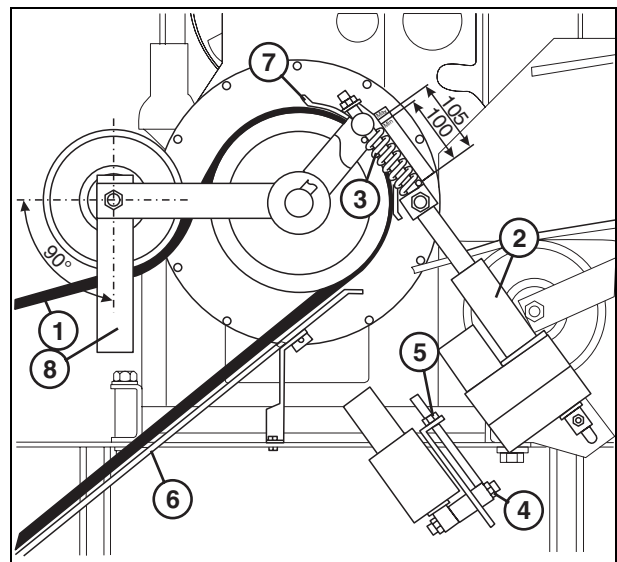

Fig. 2
(Fig. 2)
The belt lifters (8) must be adjusted at $90^\circ \pm 1$ as illustrated, (Fig. 2).